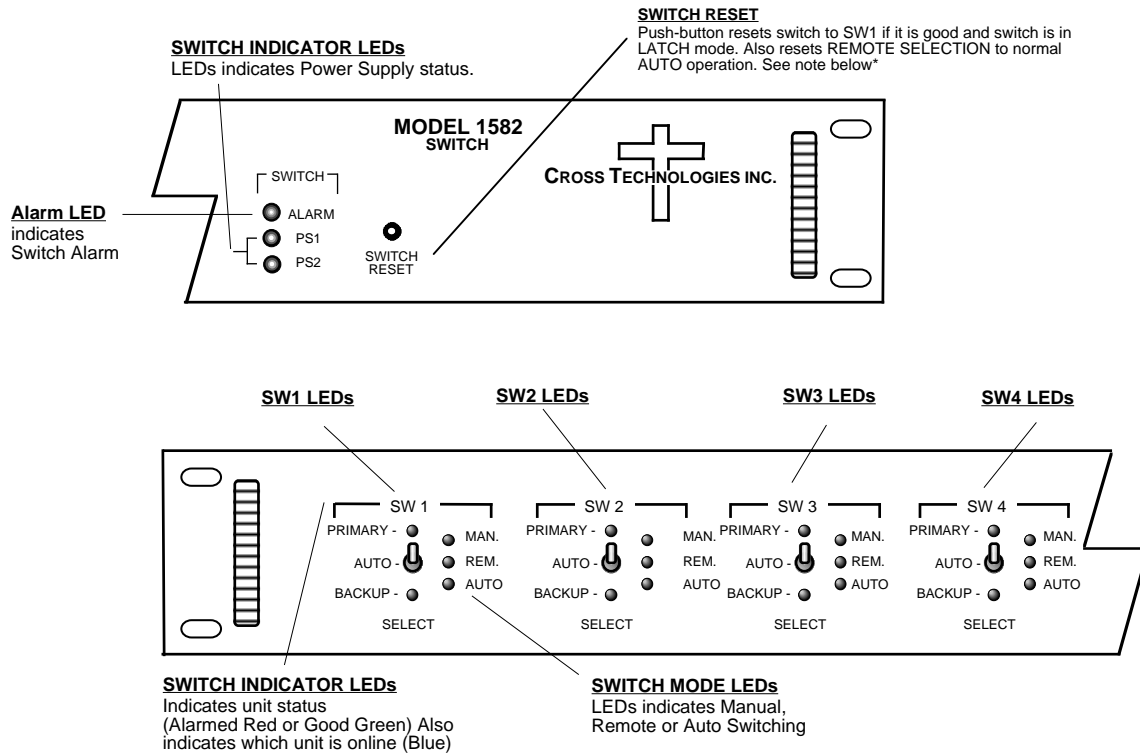

FIGURE 2.3 1582-421L Switch, Front Panel Controls and Indicators
Figure 2.3 shows the front panel controls and indicators.
1. Set the on board controls as desired (Tables 2.0, 2.1, Figure 2.3).